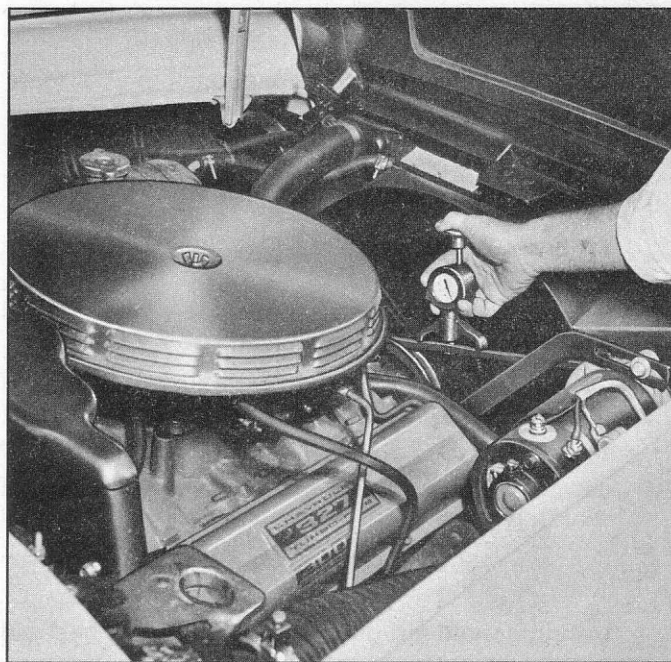

Fig. 3—Adjust Fan Belt Tension
2. Pull the generator away from the engine until desired belt tension is obtained using a belt tension gauge (fig. 3). Tension should be  $75 \pm 5$  lbs. using a Strand tension gauge.